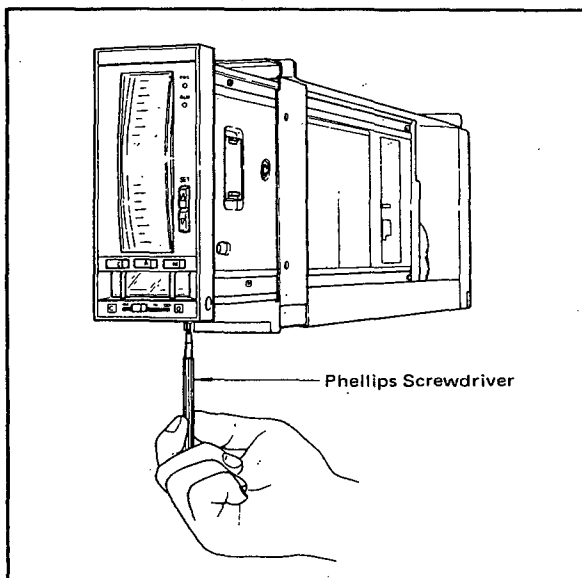

Figure 6-2-4. Zero Adjustment for Output Indicator.
- (3) If necessary, adjust the indicated value with the zero adjustment shown in Figure 6-2-4.
- (4) Set the pointer to the 0%, 25%, 75% and 100% major graduation points on the scale. Insure that the output current is 4 mA, 8 mA, 16 mA and 20 mA respectively at these points (allowable tolerance $\pm 2.5\%$)
- (5) If any of the points in step (4) is out-of-tolerance, repeat step (2) and adjust the zero adjustment while keeping the indicated value within the allowable tolerance.
- (6) Repeat step 4. Repeat steps 4 and 5 until every major graduation point falls within tolerance.